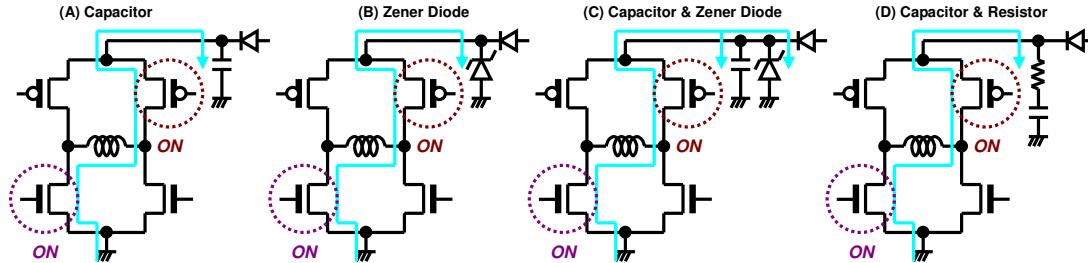

Figure 30. Measure Against V_{CC} and Motor Driving Outputs Voltage
When the absolute maximum rated voltage may be exceeded due to the voltage rise by the back electromotive force, place a (A) capacitor or (B) Zener diode between the VCC pin and the GND pin for regenerative current path as shown in Figure 30. If further measures are necessary, use measures of (A) and (B) together like as (C). The capacitor and the resistor can be used to have better voltage surge protection like as (D).